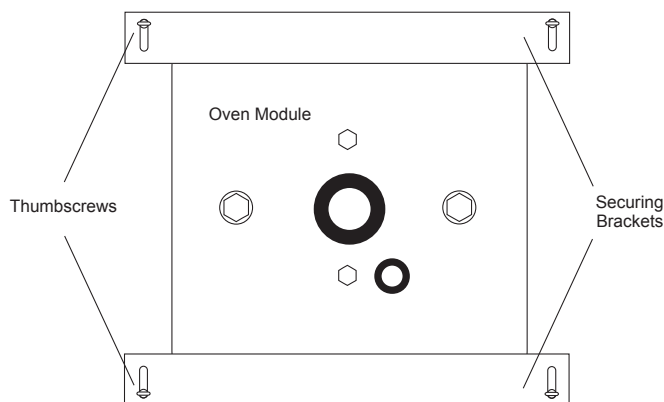

Figure 7-4
- E. Loosen the four thumbscrews adjacent to the corners of the oven module, and slide the front and rear securing brackets away from the oven module (See Figure 7-4).